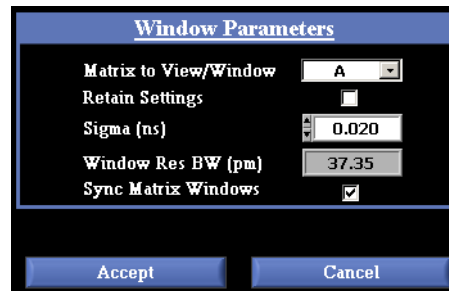

Figure 5-15. The Window Parameters area of the Time Domain Window, as it appears when more than one matrix contains data.
- 8 To apply the most recent filter settings to other matrices loaded with data, click the Sync Matrix Windows check box. This checkbox only appears if more than one matrix contains data. (See Figure 5-15 on page 79 for an illustration.)